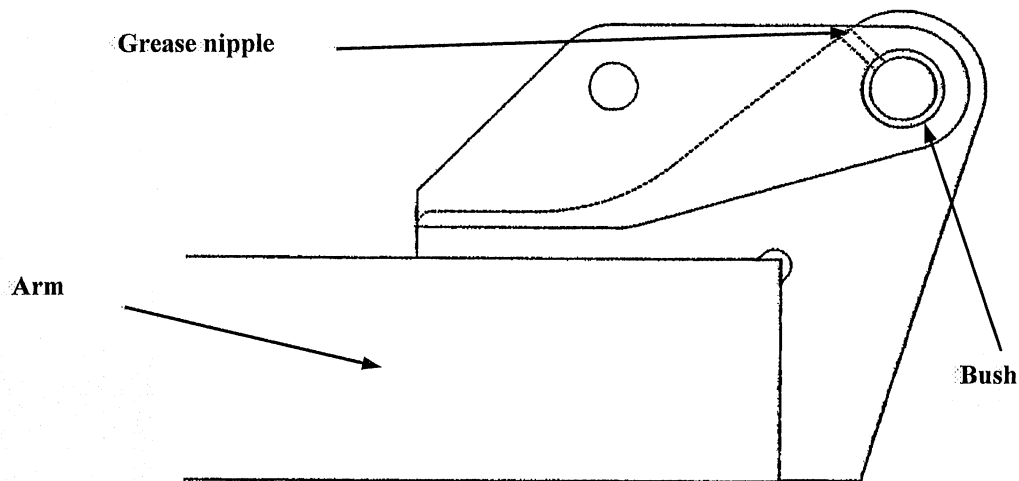

FIG. 5
- Grease the two attachment and joint bushes for each of the two lateral arms of the machine (see fig. 5). Proceed after cleaning each grease nipple for more efficient lubrication. Use lithium grease type: NLGI 2.